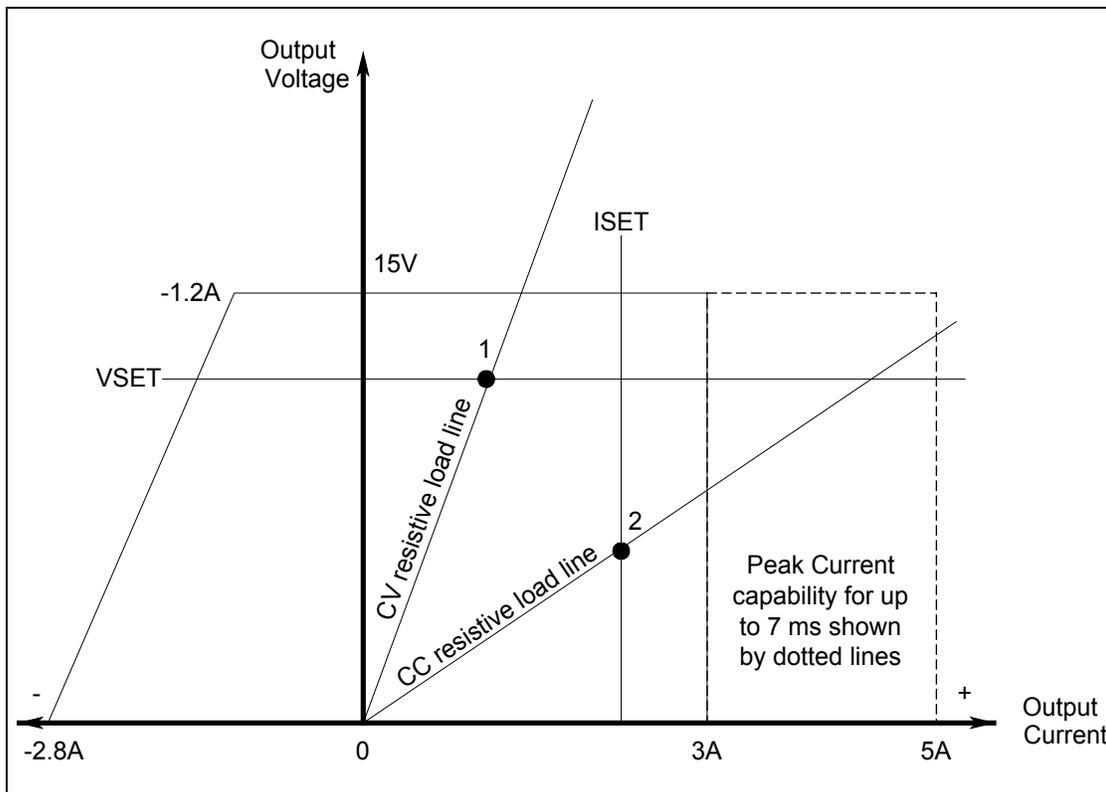

Figure 2-1. Dc Source Output Characteristic
The dc source is capable of providing a constant dc output of 15 volts with up to 3 amperes of current. It is capable of sourcing peak currents of up to 5 amperes -- provided the peak current pulse does not exceed 7 milliseconds, and the *average* current requirement does not exceed 3 amperes. If the unit attempts to draw current for longer than seven milliseconds, the current limit amplifier will limit the current to 3.0712 amps. The peak current capability is illustrated by the dotted line in Figure 2-1.
The dc source can operate in either constant voltage (CV) or constant current (CC) over the rated output voltage and current. Figure 2-1 shows a single range – two quadrant capability. This means that the dc source is capable of sourcing as well as sinking current over the output voltage range from zero volts to the rated voltage. This negative current sinking capability provides fast downprogramming of the output of the dc source. It can also be used to sink current from a battery charger, thus providing battery charger test capability. The negative current is not programmable, and varies linearly from 1.2 amperes at the full rated voltage, to 2.8 amperes at zero output voltage.
The operating point of the unit is determined by the voltage setting, current setting, and the load resistance. In figure 2-1, operating point 1 is defined by the load line traversing the positive operating quadrant in the constant voltage region. Operating point 2 is defined by the load line traversing the positive operating quadrant in the constant current region.